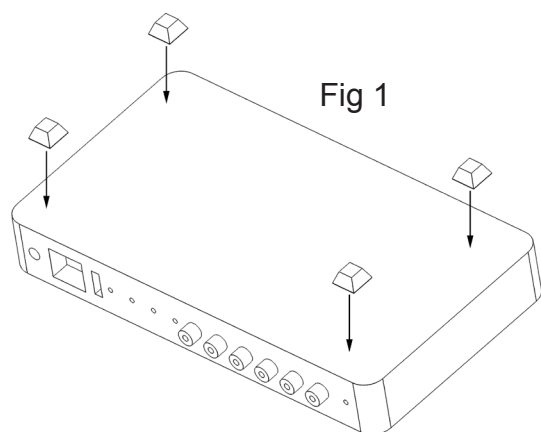

Fig 1
- a. Attach the four rubber feet to the bottom of the equipment. Remove the protective backing and stick them in place, about 1/2" in from each corner will work best. (Fig 1)